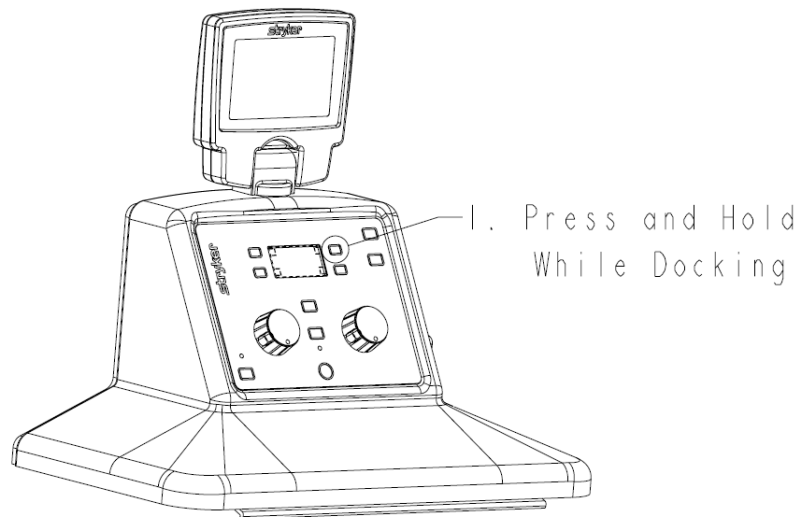

Figure 1: Accessing Menu While Docked
1. To access the System Settings Menu, hold down the display button in the upper-right hand corner and dock the unit. (See figure 1)